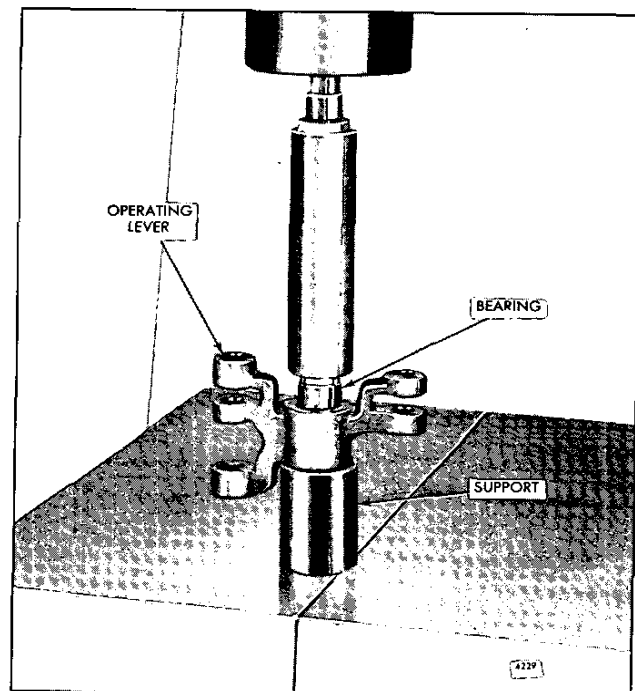

Fig. 12 - Installing Control Link Lever Bearings
9. Support the control link lever on a steel spacer on the bed of an arbor press. Start one bearing, number side up, in the lever and press it flush with the lever with tool J 21068 (Fig. 12). Invert the lever and install the second bearing in the same manner.